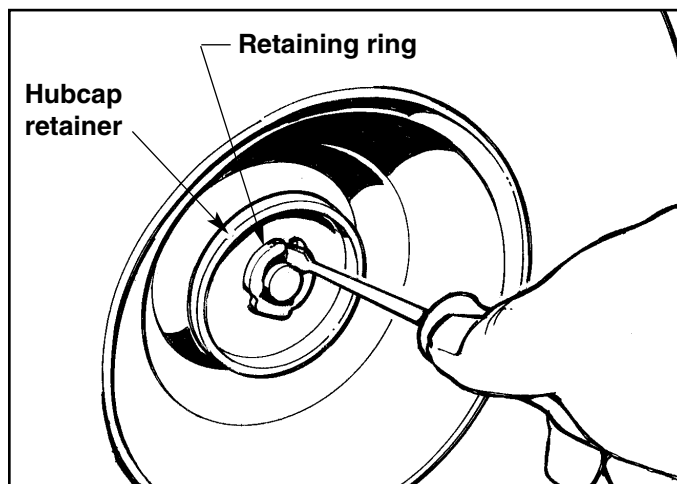

Figure A-3. Front Wheel Retaining Ring - Broadmoor
2. Insert the tip of the flat blade screwdriver into the area at the open end of the retaining ring, and twist the blade against the retaining ring to force the retaining ring out of the groove (Figure A-3).